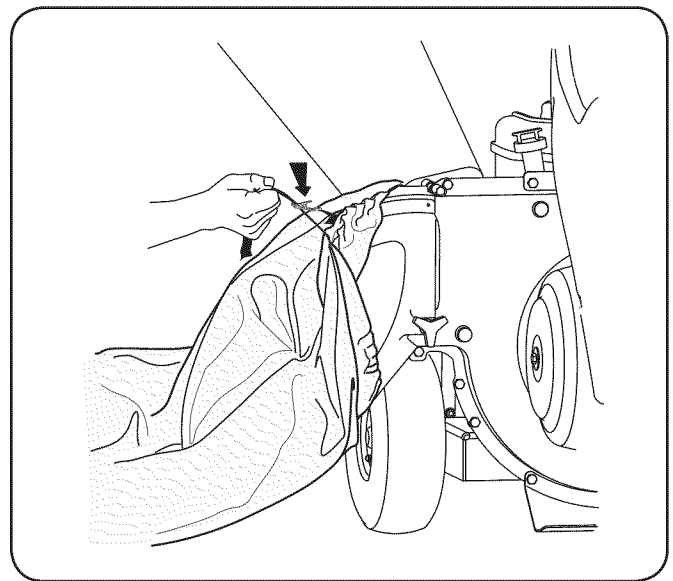

Figure 5-3
2. Un-clip drawstring and loosen bag from chute deflector opening. See Fig. 5-3.